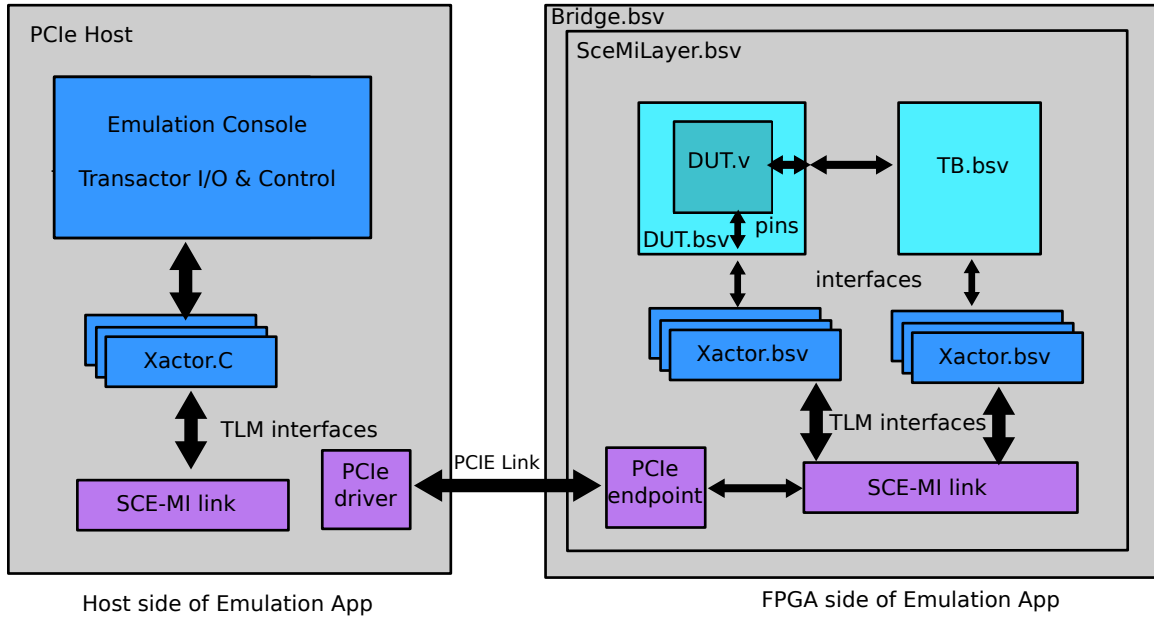

Figure 1: Overview of Emulation App
An Emulation App system, shown in Figure 1, has two major components: an FPGA containing a Device-Under-Test (DUT) and a PC host containing the emulation console. The two sides are connected by a physical PCIe link. The FPGA may also contain a synthesizable testbench (TB). The PCIe link communicates with the FPGA components and the emulation console through implementation-independent transactors. The hardware abstraction of the physical connections provides deployment flexibility and insulates the designer from the underlying communication protocol. The co-emulation link provides controllability, observability, and performance between the host and the FPGA sides of the emulation system, without requiring the user to write any communication code.